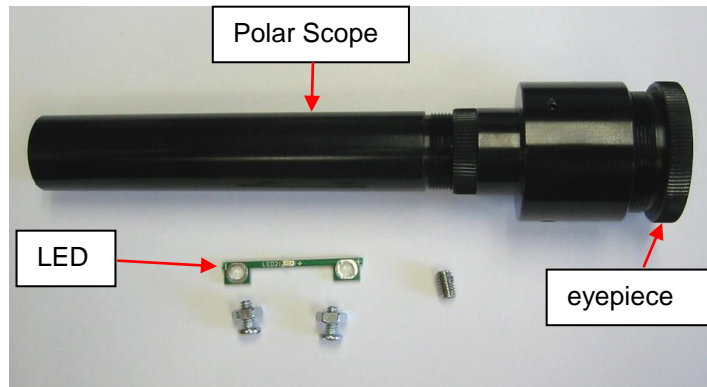

Figure 1. Parts list
- Adjust polar scope eyepiece shown in Figure 1 to bring the Polar Scope Dial in focus.